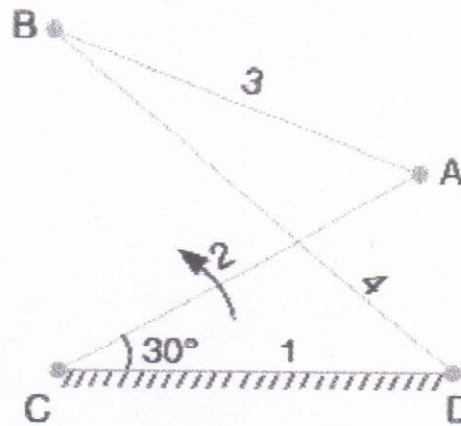

Fig.2
- b. Locate all the instantaneous centers for the crossed four bar mechanism as shown in Fig.2. The dimensions of various links are:  $CD = 65 \text{ mm}$ ;  $CA = 60 \text{ mm}$ ;  $DB = 80 \text{ mm}$ ; and  $AB = 55 \text{ mm}$ . Find the angular velocities of the links  $AB$  and  $DB$ , if the crank  $CA$  rotates at 100 r.p.m. in the anticlockwise direction.